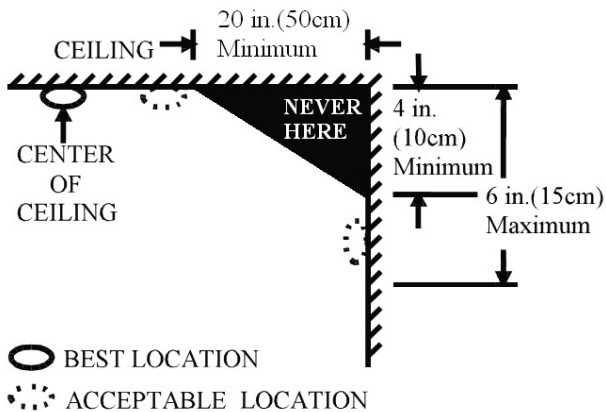

Figure 4 Recommended best and acceptable locations to mount smoke detectors
- Install smoke detectors as close to the center of the ceiling as possible. If this is not practical, put the detector on the ceiling, no closer than 20 inches (50 cm) from any wall or corner, as shown in Figure 4.
- If ceiling mounting is not possible and wall mounting is permitted by your local and state codes, put wall-mounted detectors between 4 and 6 inches (10 ~ 15 cm) from the ceiling, also see Figure 4.